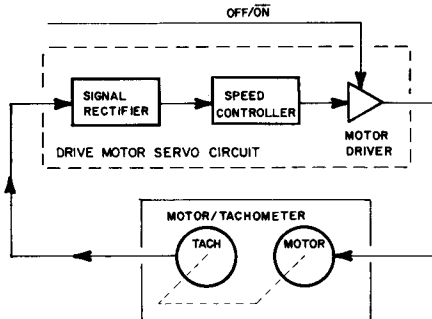

Fig. 7-35. Block diagram of drive motor system, Model 1541.
7.2.6 Drive Motor System Electrical Theory (Refer to Figs. 7-35 and 7-36)